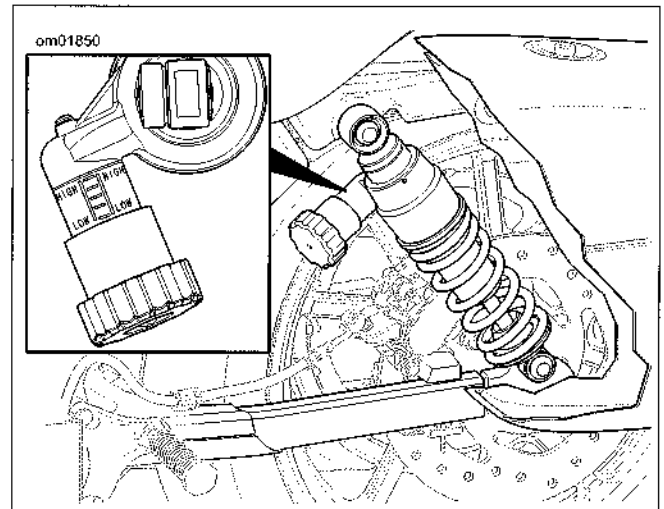

Figure 1-53. Preload Adjustment Knob: XL 1200T
1. See Figure 1-53. Locate the preload adjustment knob behind the left saddlebag.